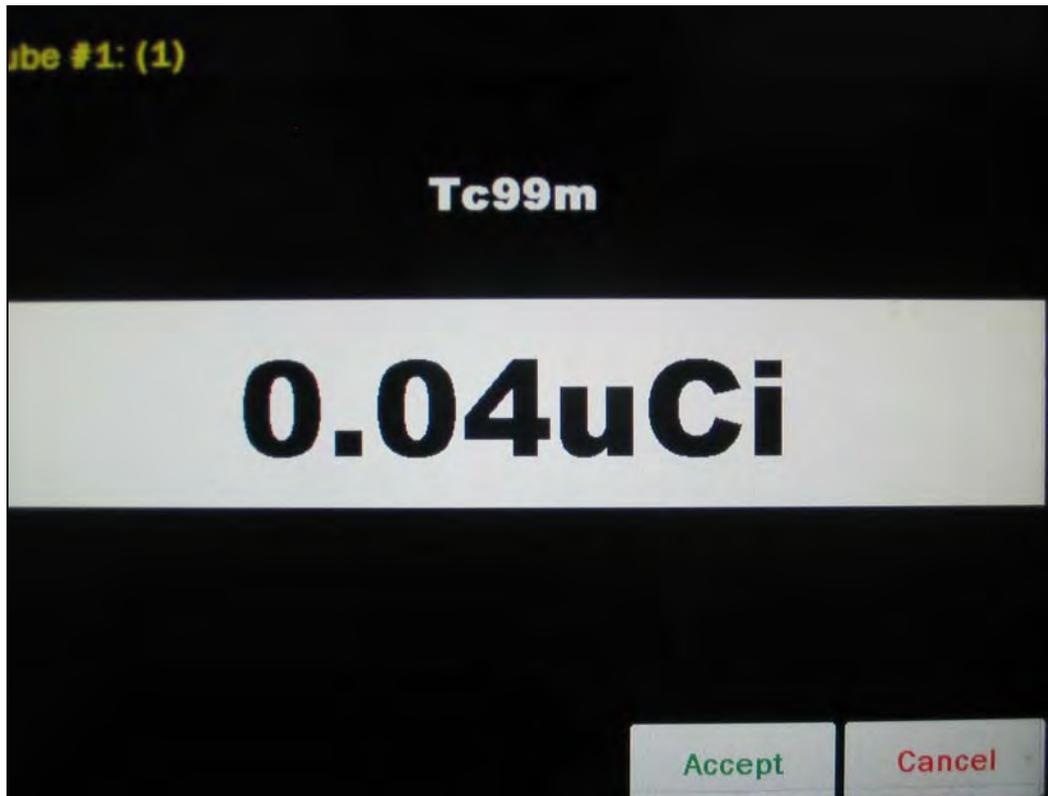

Figure 6-29 Lineator Test Measurement Screen
Remove the Dipper from the Chamber (leaving the Liner in place) and place the Tc99m test source into Tube 1 and then place Tube 1 into the Chamber. Touch the **Tube #1 (1):** field box to perform a measurement. A measurement window will appear as shown in Figure 6-29 Lineator Test Measurement Screen.